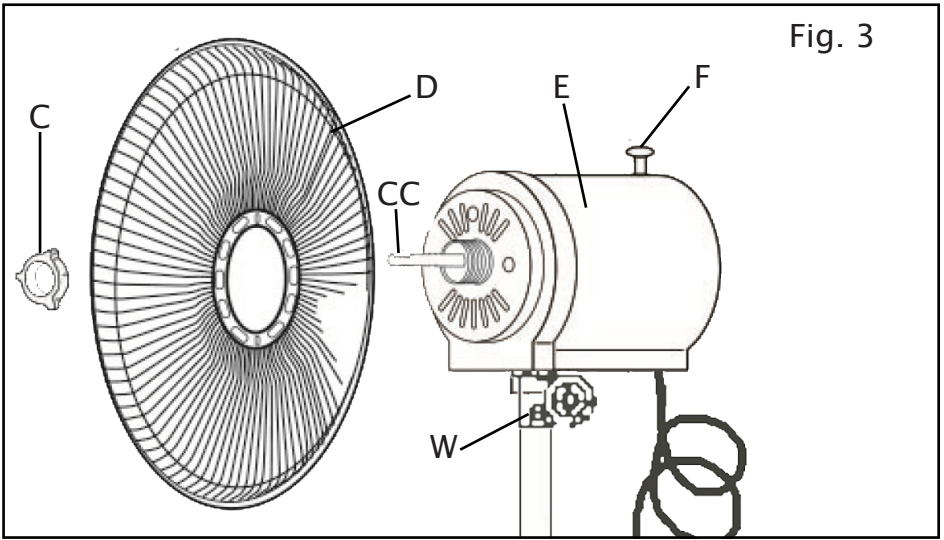

Fig. 4
X Fan locking screw (fig. 4)
Attention: the screw (X) must be screwed in correspondence with the flat seat obtained on the motor shaft (CC) and turned towards the inside of the device. Figure 4